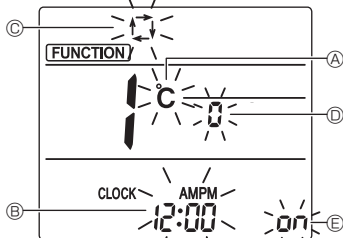

Fig. 6-6
- 1. Press the **STOP** button ① to stop the air conditioner.
- 2. Press the **MENU** button ②.
- 3. Check that function No. "1" is displayed, and then press the **SET** button ③.
- 4. Press the **UP** button ④ to change the function No.
6.9.2. Changing the temperature unit (Fig. 6-6 Ⓐ)
- Press the **TEMP** button ⑤.
- Each time the **TEMP** button ⑤ is pressed, the setting switches between **°C** and **°F**.
6.9.3. Changing the time display (Fig. 6-6 Ⓑ)
- Press the **TIME** button ⑥.
- Each time the **TIME** button ⑥ is pressed, the setting switches between **12:00** and **24:00**.
6.9.4. Changing the AUTO mode (Fig. 6-6 Ⓒ)
- Press the **AUTO** button ⑦.
- Each time the **AUTO** button ⑦ is pressed, the setting switches between **1** and **2**.
6.9.5. Changing the pair No. (Fig. 6-6 Ⓓ)
- Press the **UP** button ④.
- Each time the **UP** button ④ is pressed, the pair No. 0-3 changes.